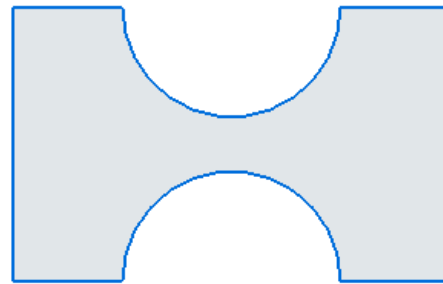

Figure 2-51 Final profile for Tutorial 2
19. Click to define the endpoint of this line when the endpoint relationship handle is displayed. The final profile of the model is shown in Figure 2-51.